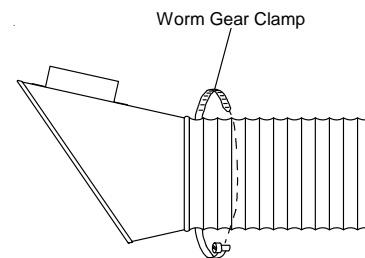

Fig. 3
4. Slip the end of the hose over the nozzle and secure it in place with the band clamp (supplied; Fig 3).